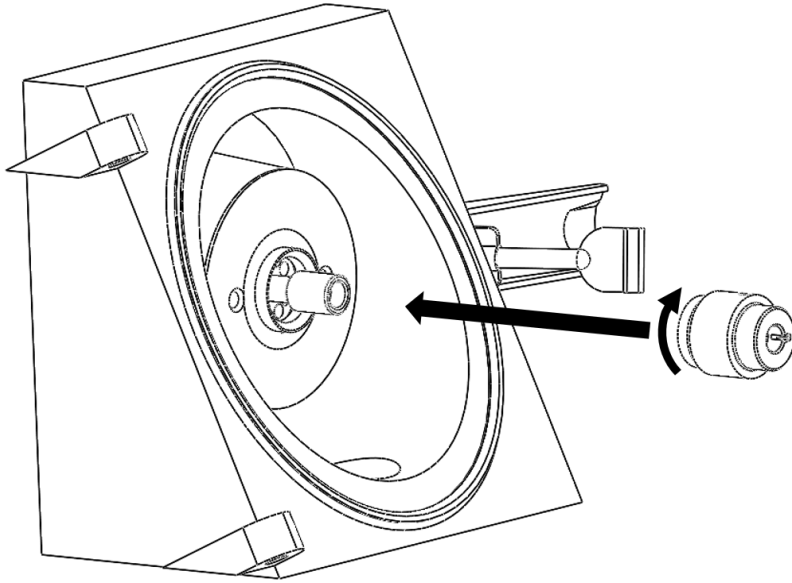

Figure 4: Installation of the inlet adaptor.
- Install the inlet adaptor over the ceramic spacer by screwing it clockwise into the spray shield thread (see Fig. 4). Do not tighten the adaptor yet.